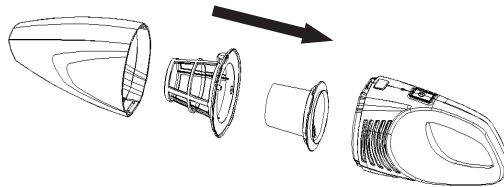

Fig. 18
4. After cleaning the dust box, first install the filter (6) into the filter holder (5), and then put it into the dust box, then install the dust box into the sub-unit (see Fig. 18).